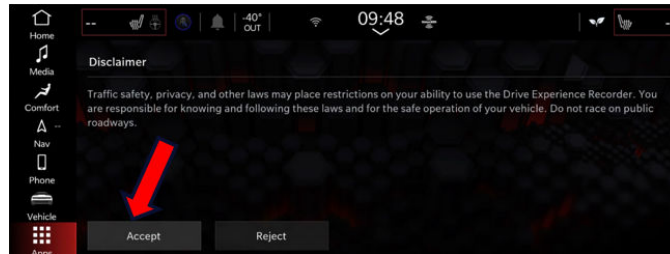

Fig. 3
- 6. If the disclaimer pops up, accept it Fig. 3.